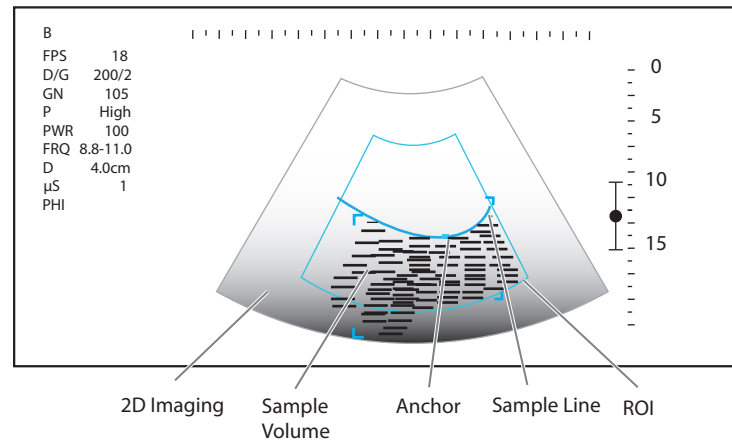

Figure 6-33 Pre-activated 3D Imaging Screen
- Volume probes: The basic screen displays 2D image, ROI and sample line, as shown in Figure 6-33. Only the data in the sample volume can be used to generate the 3D image.